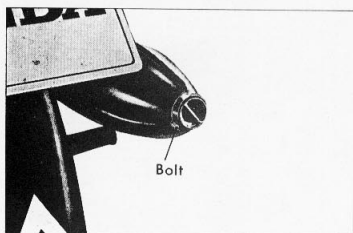

Figure 6-38. Removing diffuser pipe
- Remove the diffuser pipe locking bolt and pull out the diffuser pipe (Fig. 6-38)